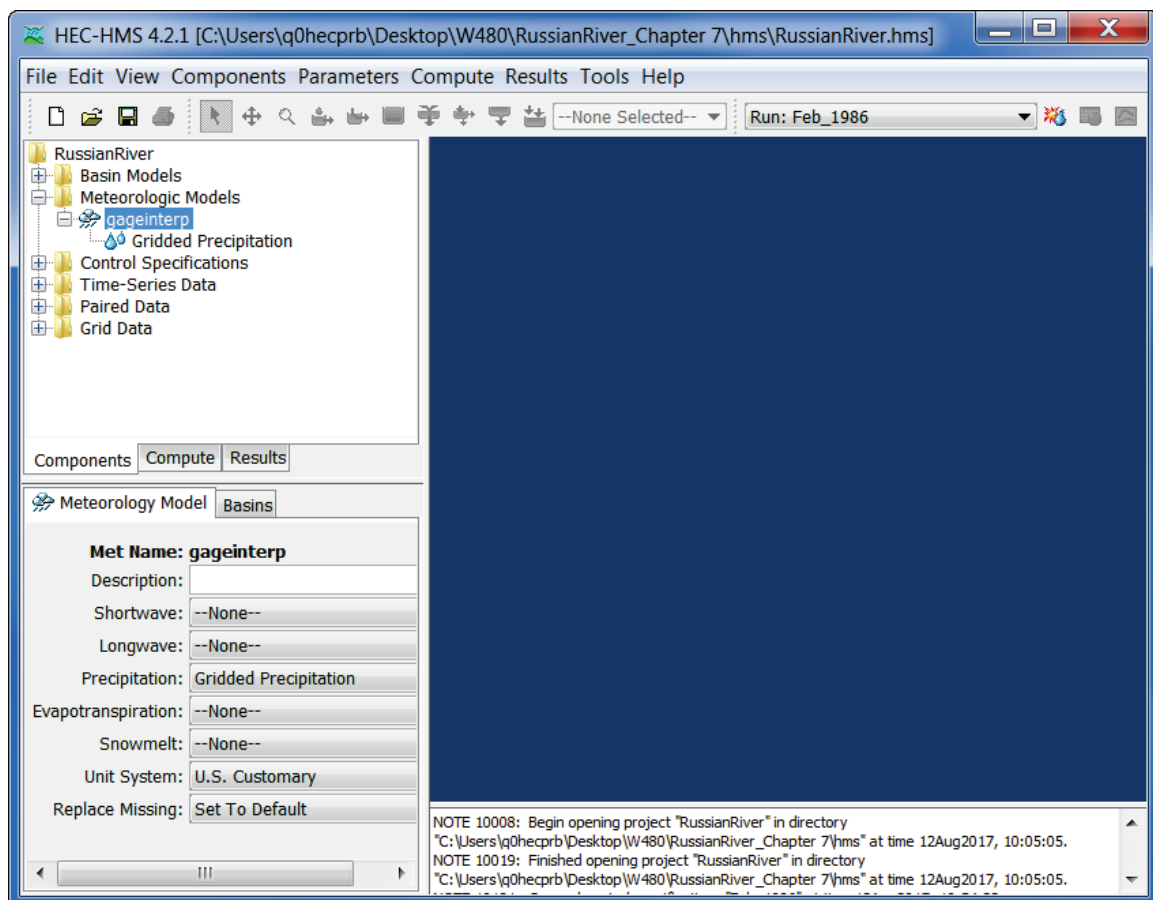

Figure L.26 HEC-HMS Main Window – Meteorology Model Tab
2. The HEC-HMS main window will open with the **Meteorology Model** tab displayed (Figure L.26). This tab allows the user to edit parameters that have been defined for the meteorologic model. For further detail on this editor, reference the HEC-HMS User's Manual.
3. From the **File** menu, click **Exit**, the HEC-HMS main window will close (Figure L.26).
- From the **File** menu, click **Exit**, the HEC-HMS main window will close (Figure L.26).